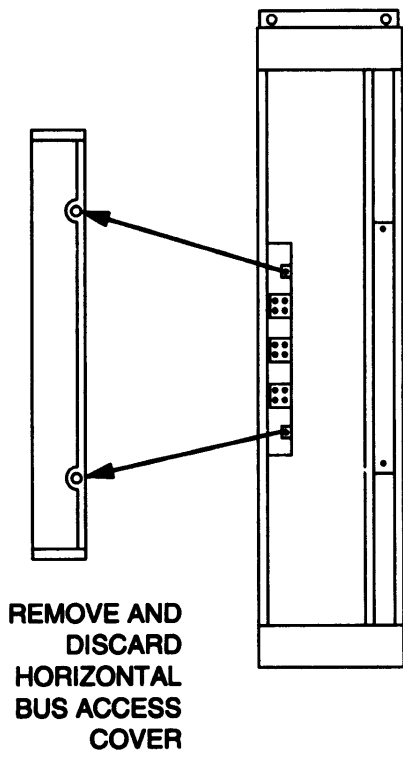

FIGURE 4a
4. If the circuit breaker assembly is to be installed in the left most section of a shipping block (Figure 3a or 4a), remove and discard the horizontal bus access cover from the left side of the section. Refer to Figure 4a. Proceed to Step 5.